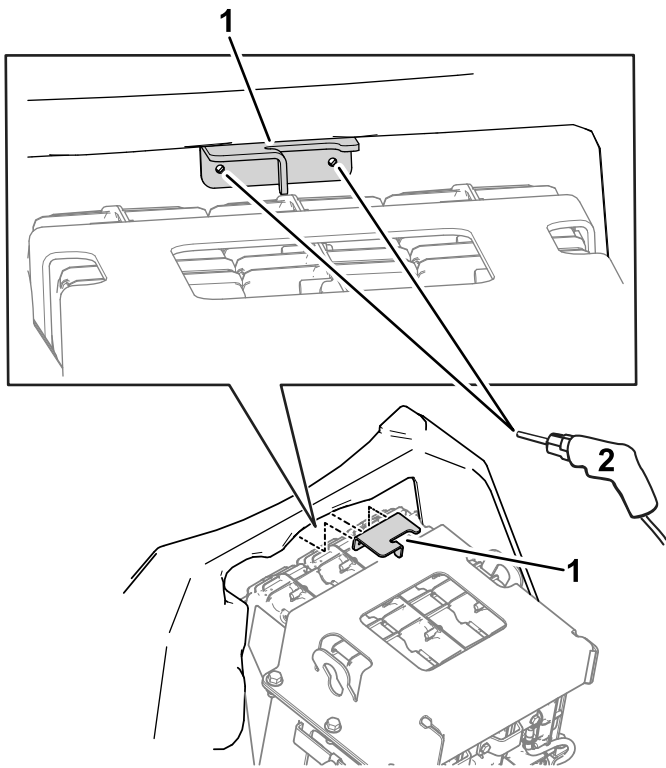

Figure 51
2. Using the latch bracket as a template, mark and drill 2 holes (3/16-inch drill bit) into a centered area of the battery cover (Figure 51).